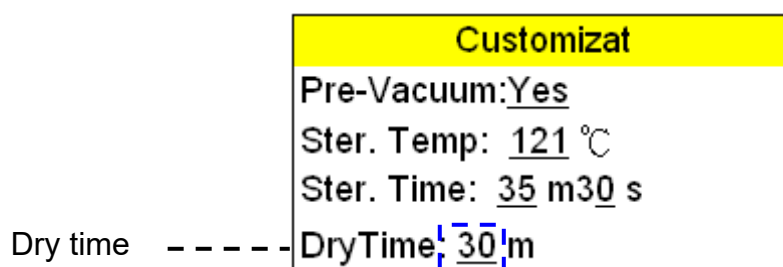

Figure 76
- G. Press  or  button to move the cursor as shown in Figure 76
- Press  button to store dry time parameter as shown in Figure 76.